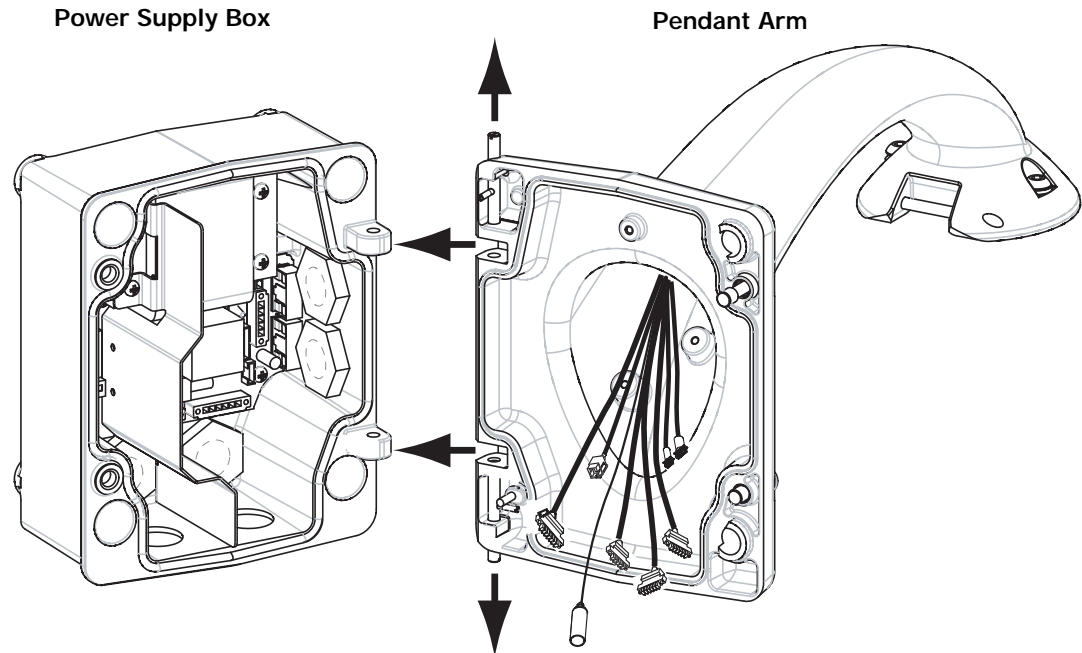

Fig. 1.6 Pendant Arm to Power Box Hinge Alignment
3. While continuing to hold the top hinge pin open and align the top and bottom hinges of the Pendant Arm to their mating points on the Power Supply Box. See *Figure 1.6*, above, for an illustration.